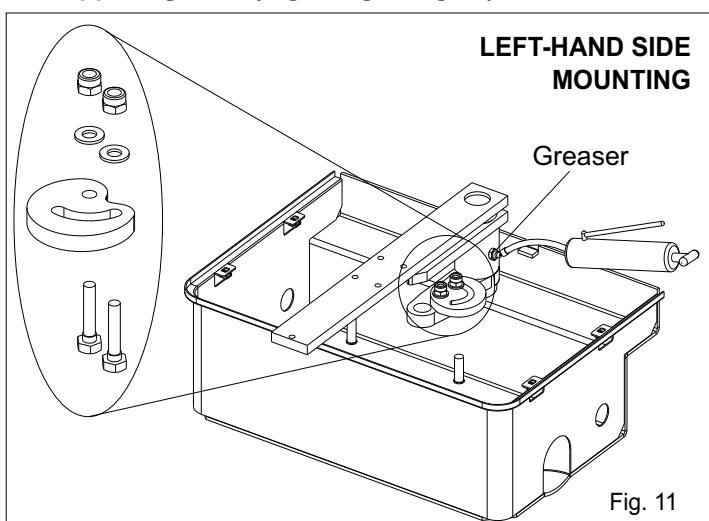
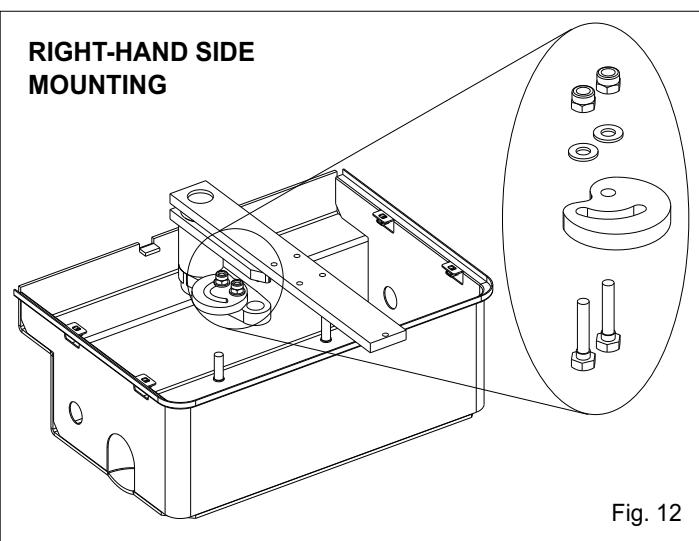

Fig. 11
Fig. 12
**2.7.** Insert the cam of the limit switch into the handle bar and fix it with the special screws (left-hand side mounting Fig. 11, right-hand side mounting Fig. 12)
**When putting in function the installation it is peremptory to lubricate the box as in Fig. 11 until the grease comes out. (Use grease type DIN 51502 KP 2 N-20 - K2 K-20).**